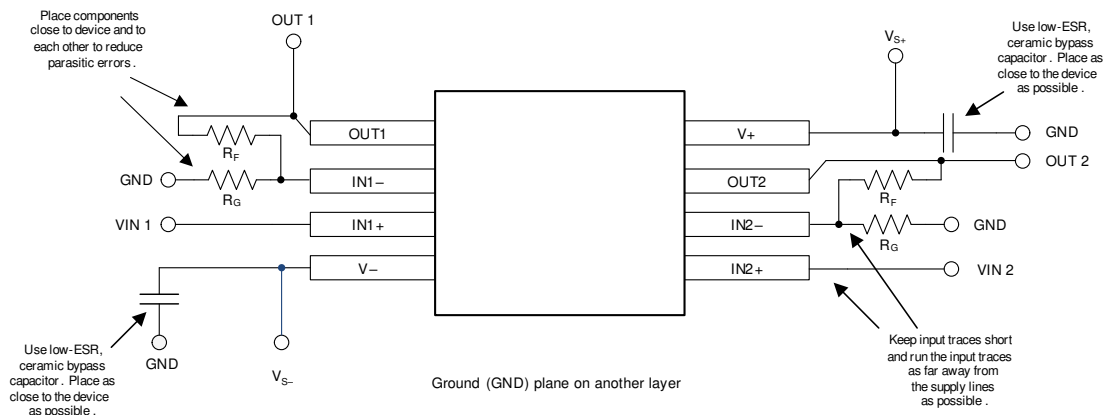

Figure 8-8. Layout Example
- Place the external components as close to the device as possible, as shown in Figure 8-8. Keeping R_F and R_G close to the inverting input minimizes parasitic capacitance.